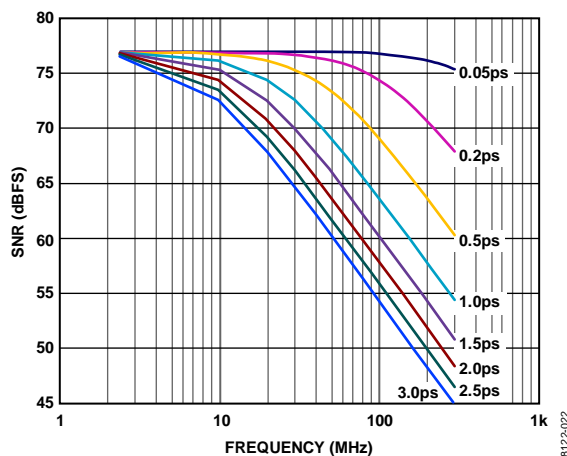

Figure 56. SNR vs. Input Frequency and Jitter
In the previous equation, the rms aperture jitter represents the clock input jitter specification. Input frequency (IF) undersampling applications are particularly sensitive to jitter, as illustrated in Figure 56.